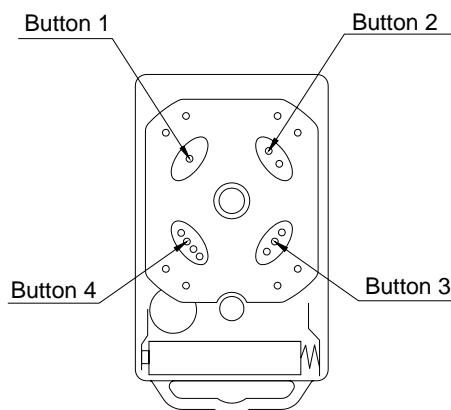

Fig.10 Remote control
- **Remote control:** The remote control works in a single channel mode. It has four buttons. See Fig.10 Remote control. The function of button 1, button 2 and button3 are the same. With each press of the remote control button, which has been programmed, the gate will close, stop, open or stop cycle. Button 4 is available to set pedestrian mode. You can program/learn button 1, button 2, button 3 individually. You also can program/learn two buttons or three buttons together, but you need repeat the program/learn process if you want to use more than one button.